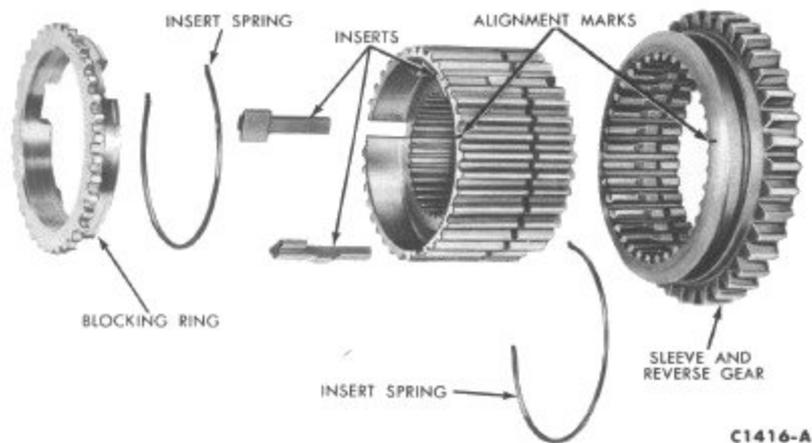

FIG. 53—First and Reverse Gear Synchronizer Disassembled
31. Disassemble the synchronizers as shown in Figs. 53 and 54.
12. Check the synchronizer sleeves for free movement on their hubs. Make sure that the alignment marks (etched marks) are properly indexed as shown in Figs. 53 and 54.
2. Install an insert spring (Fig. 53) in the groove of the 1st and reverse synchronizer hub. Make sure that the spring covers all insert grooves. Start the hub in the sleeve making sure that the alignment marks are properly indexed. Position the three inserts in the hub making sure that the small end is over the spring and that the shoulder is on the inside of the hub. Slide the sleeve and reverse gear onto the hub until the detent is engaged. Install the other insert spring in the front of the hub to hold the inserts against the hub.